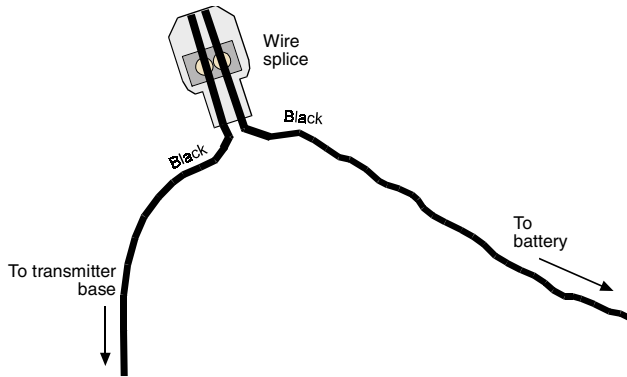

Figure 4 - Wiring the Transmitter Base to the Battery
2. Insert the end of the black wire from the battery into the other opening of the wire splice. See Figure 4 below.